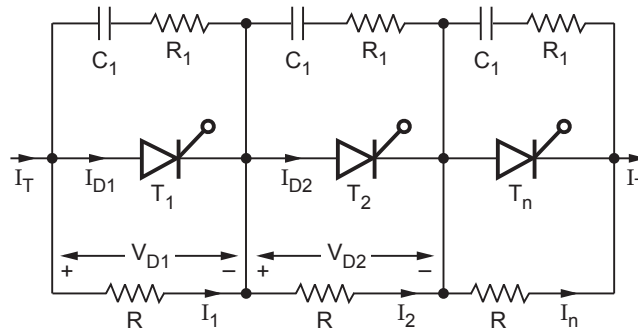

Fig. 1.14.1
- The R_2 - C network will also act as a snubber network to limit the rate of rise of voltage across the thyristor at switch-on. The circuit arrangement for dynamic voltage equalization is shown in Fig. 1.14.1